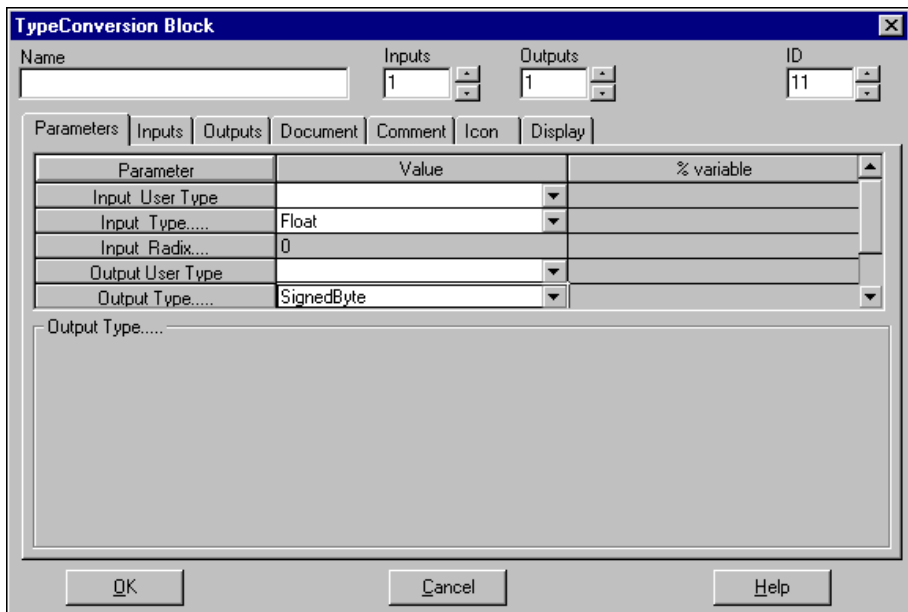

Figure 15-8. Block 1 Parameters Tab
3. Raise the TypeConversion Block dialog box for the first block. On the Parameters tab, change the Output Type from Integer to **Signed Byte**. This block accepts a floating-point signal and produces a fixed-point output. Refer to Figure 15-8 for the Parameters tab with these changes made.
- On the Outputs tab, select a Radix Position of **6** as shown in Figure 15-8.